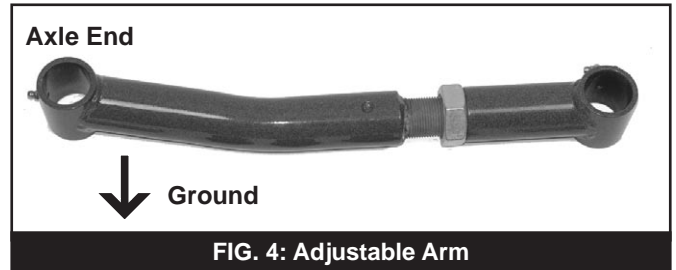

**FIG. 3**
20. Drill lower bump stop holes to 5/16" diameter and use 3/8" self-tapping bolt to cut threads for bump stop extension. Remove 3/8" self-tapping bolt and save for installation of bump stop extension later. (Fig 3)